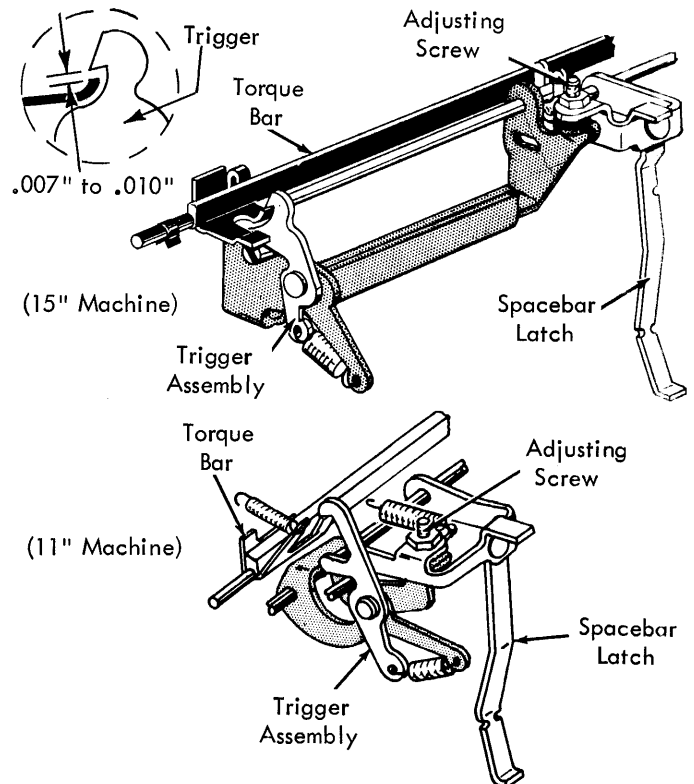

FIGURE 185A. Spacebar Latch Lever Screw
2. Spacebar Latch Lever Screw - Adjust the screw so that  $.007''$  to  $.010''$  clearance exists between the escapement trigger and the escapement torque bar (Fig. 185A). Disconnect the escapement trip link before making this adjustment.